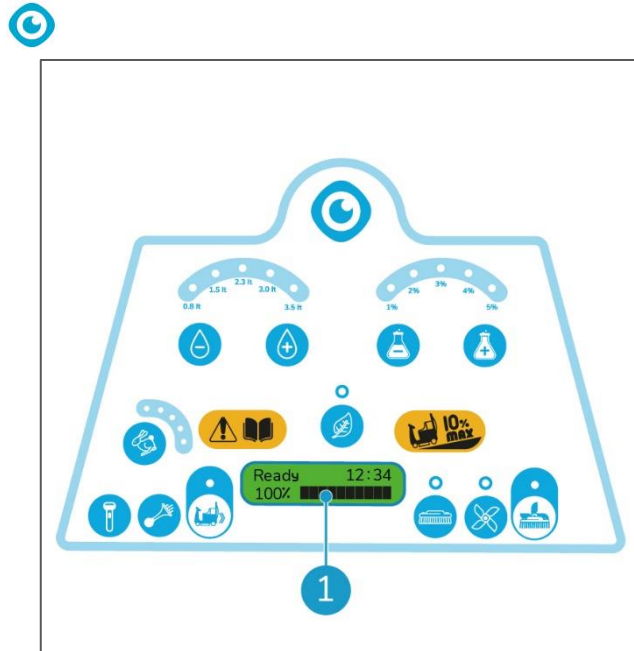

Figure 67
10. Wait a few seconds. The display should indicate 100% and all 10 bars of the battery level display should be visible (Figure 67, pos 1). The CO-BOTIC 65™ is ready for a new working cycle.